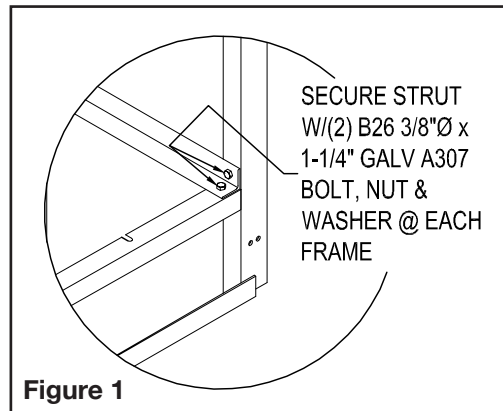

Figure 1
- Insert 3/8" x 1 1/2" hex bolts through the frames as indicated in Figure 1. Each frame will accommodate two (2) bolts with a flat washer and hex nut for each bolt.
- Place the horizontal strut on to the bottom rear of each frame. Secure each bolt with a flat washer and hex nut as indicated in Figure 1. Do not fully tighten until all bolts are in place.